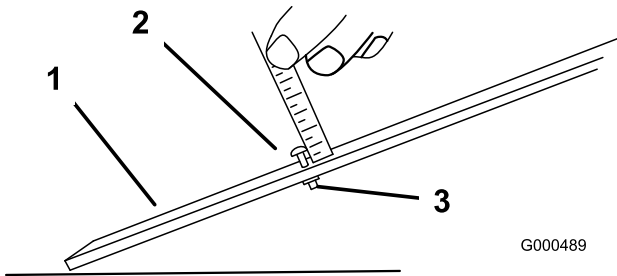

Figure 54
2. Loosen nut on gauge bar (Figure 54) and set adjusting screw to desired height-of-cut. Distance between bottom of screw head and face of bar is height-of-cut.